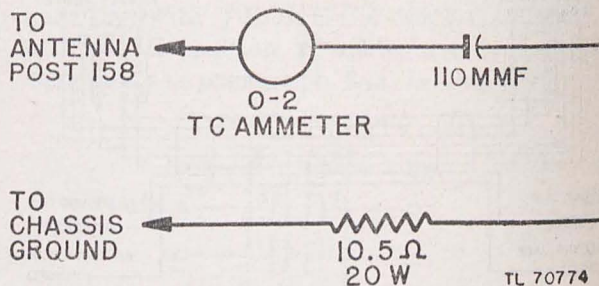

Figure 19. Dummy load r-f metering circuit for transmitter of Radio Receiver and Transmitter BC-1306.
(1) Connect dummy load (fig. 19) across transmitter output terminal.
(4) The antenna circuit MUST be loaded with a dummy load during this test (fig. 19), consisting of a 10.5-ohm, 20-watt carbon or noninductive resistor in series with a 110-mmf capacitor and a 0-2. r-f ammeter.
(5) The Power Cable CD-1086 and Battery Cable CD-1119 should now be securely locked into power receptacle 144 and battery receptacle 145 respectively.
(6) Turn power on.
(7) Insert the KEY cord plug into jack 150. Close KEY circuit and listen in on headphones
(3) *Operational test.* When these adjustments have been made, tune ANT. TUNING knob 131 for maximum brilliance as shown on indicator 159. Maximum light is visible when the two red spots on the barrel of the indicator cover are lined up. For minimum passage of light rotate the outer rim clockwise so the red spots are widely separated. This maximum brilliance should coincide with the maximum current reading on the thermocouple ammeter of the dummy load, r-f metering circuit. (See fig. 19.) The final frequency check should be made on each end of the frequency band. Retune the **FREQ. CONTROL** knob for each end frequency test, rotating knob 131 for maximum brilliance on each of these frequencies to make sure antenna resonance is secured at each end of the band. After the set has been properly aligned, turn off all power and disconnect all power cables.